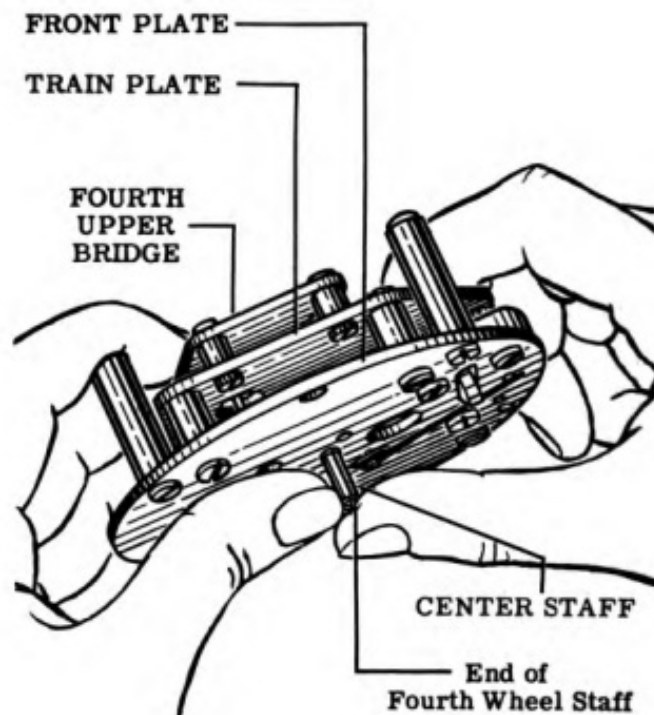

Figure 63
11. Check the endshakes and the sideshakes of the third and fourth wheels. The endshake of the fourth wheel must be taken by holding the center staff with the left thumbnail while testing the endshake with the right thumb, as shown in Fig. 63. This removes the endshake of the center wheel so that the endshake of the fourth wheel may be tested independently. See the Control Manual for standards and corrective measures. Oil the third and fourth upper pivots. See the Control Manual.